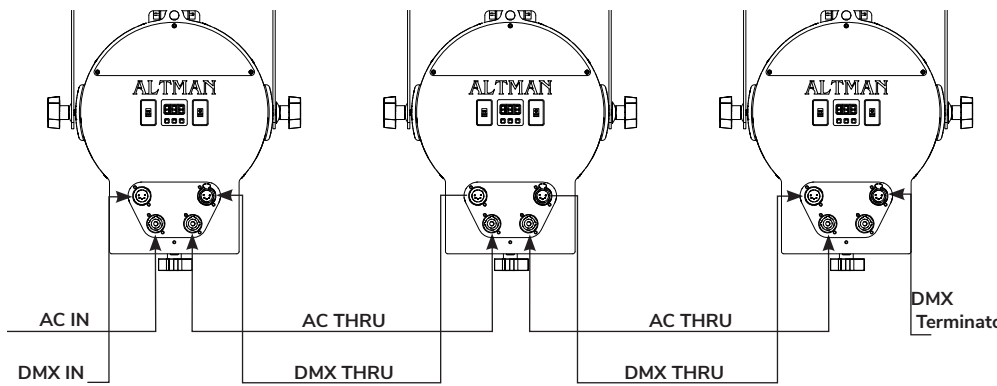

Figure 4: Daisy Chain Power and Data Diagram
1. With luminaire on a flat, sturdy surface, position yoke assembly for easy access as illustrated in Figure 4.